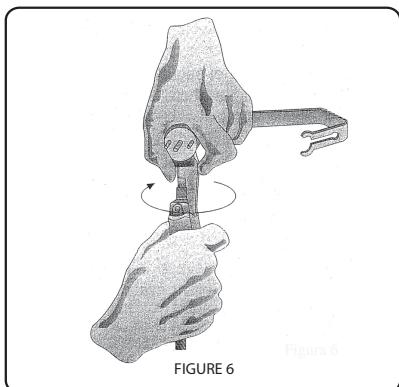

FIGURE 6
- 3 Unthread the gun grip from its housing (figure 6).